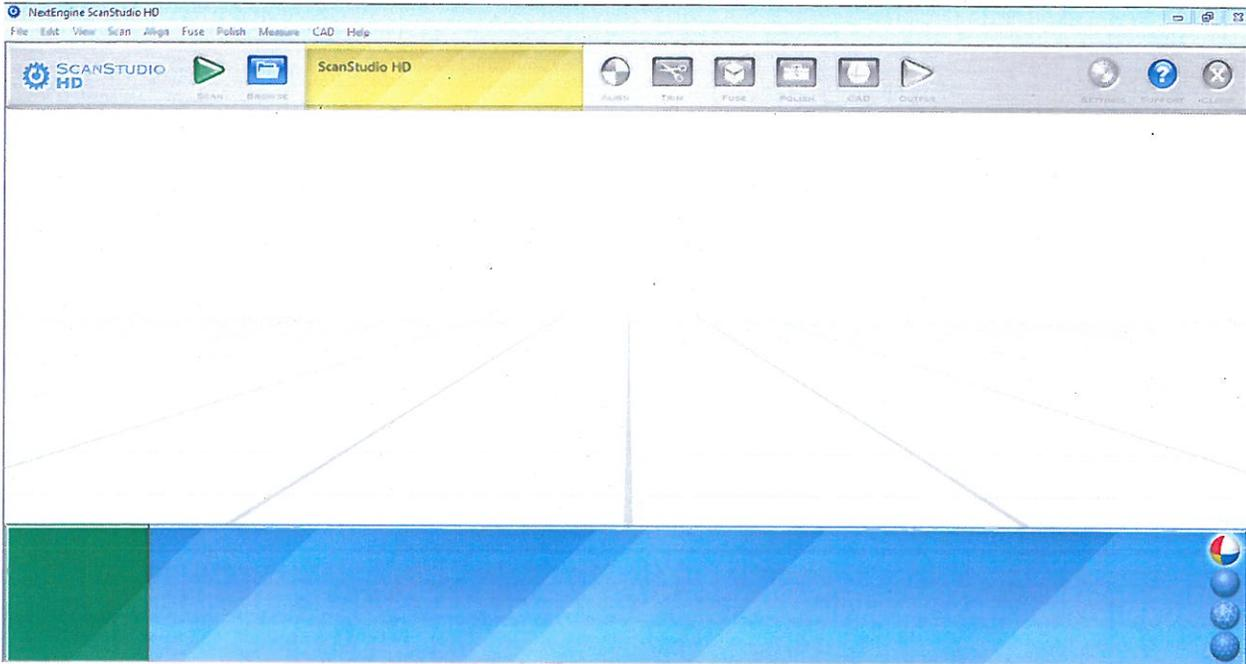

Figure 4: ScanStudio Start Screen
4. The software loads (Figure 4).